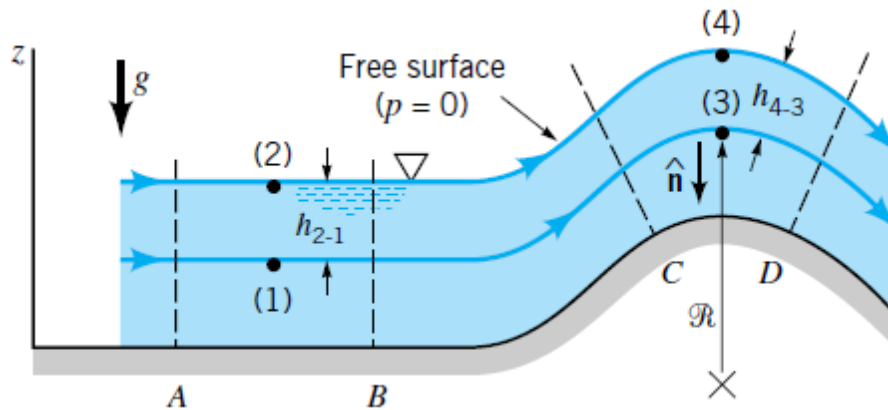

Fig. 2
Consider the inviscid, incompressible, steady flow shown in Fig. 2. From section  $A$  to  $B$  the streamlines are straight, while from  $C$  to  $D$  they follow circular paths. Describe the pressure variation between points (1) and (2), and points (3) and (4).